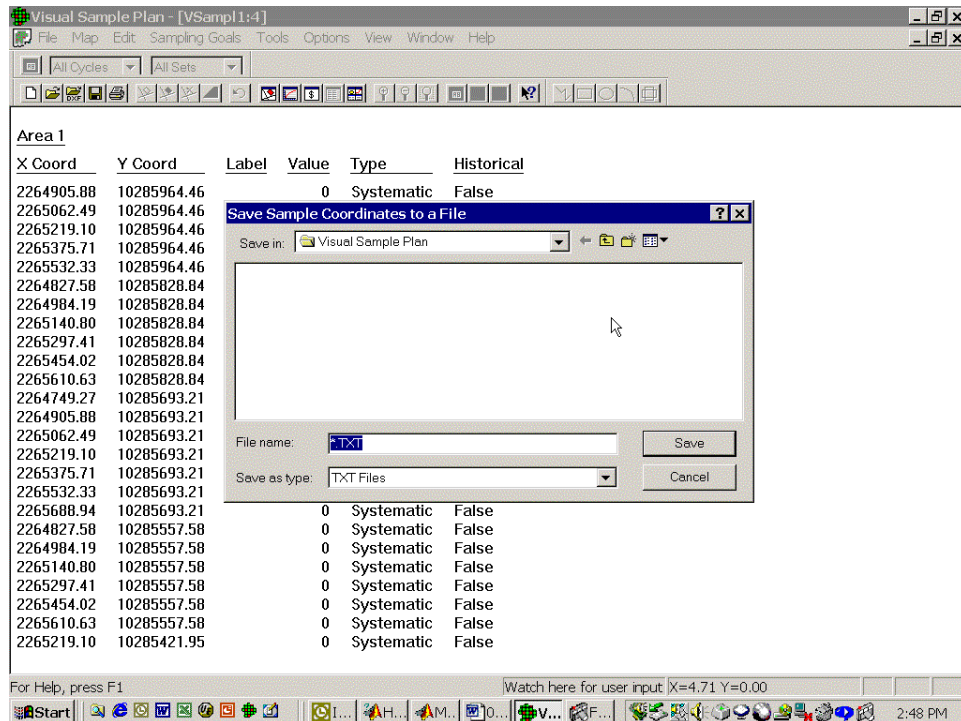

Figure 10. Coordinates view and Map→Sample Points→Export option
- At this point, your screen should look like Figure 10.